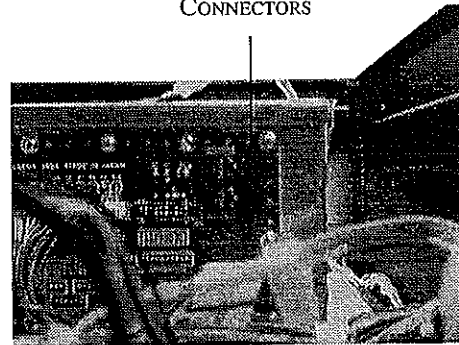

FIGURE 15: LINKING CONNECTOR LOCATION
3. Remove the protective plug from the TX and RX connectors on the game board case (located in the left-side underseat cabinet, on the edge of the game board case, see Figure 15).